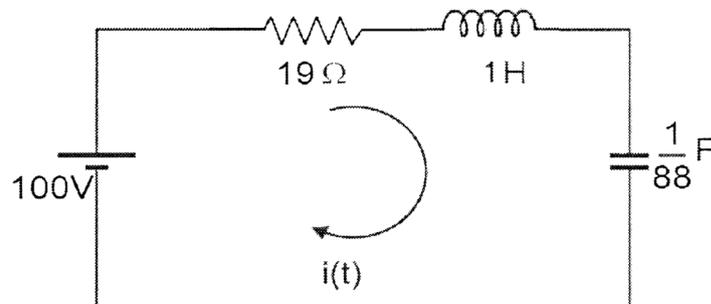

Fig. No.2
- Q2)** a) A series R-L-C circuit shown in fig. No.2, find current  $i(t)$  using conventional method. The switch is closed at  $t = 0$ . [10]